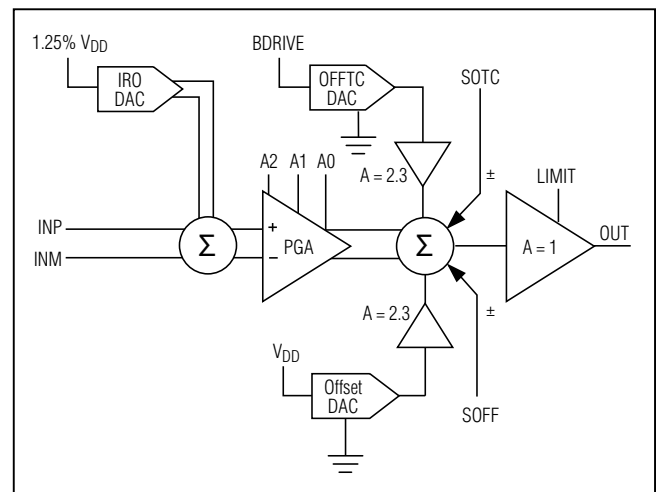

Figure 2. Signal-Path Block Diagram
$V_{BDRIVE}$  that must be added to the output summing junction to correct the error. Use the Offset TC DAC to adjust the amount of BDRIVE voltage that is added to the output summing junction (Figure 2).
- Differential to single-ended output buffer (Figure 2)